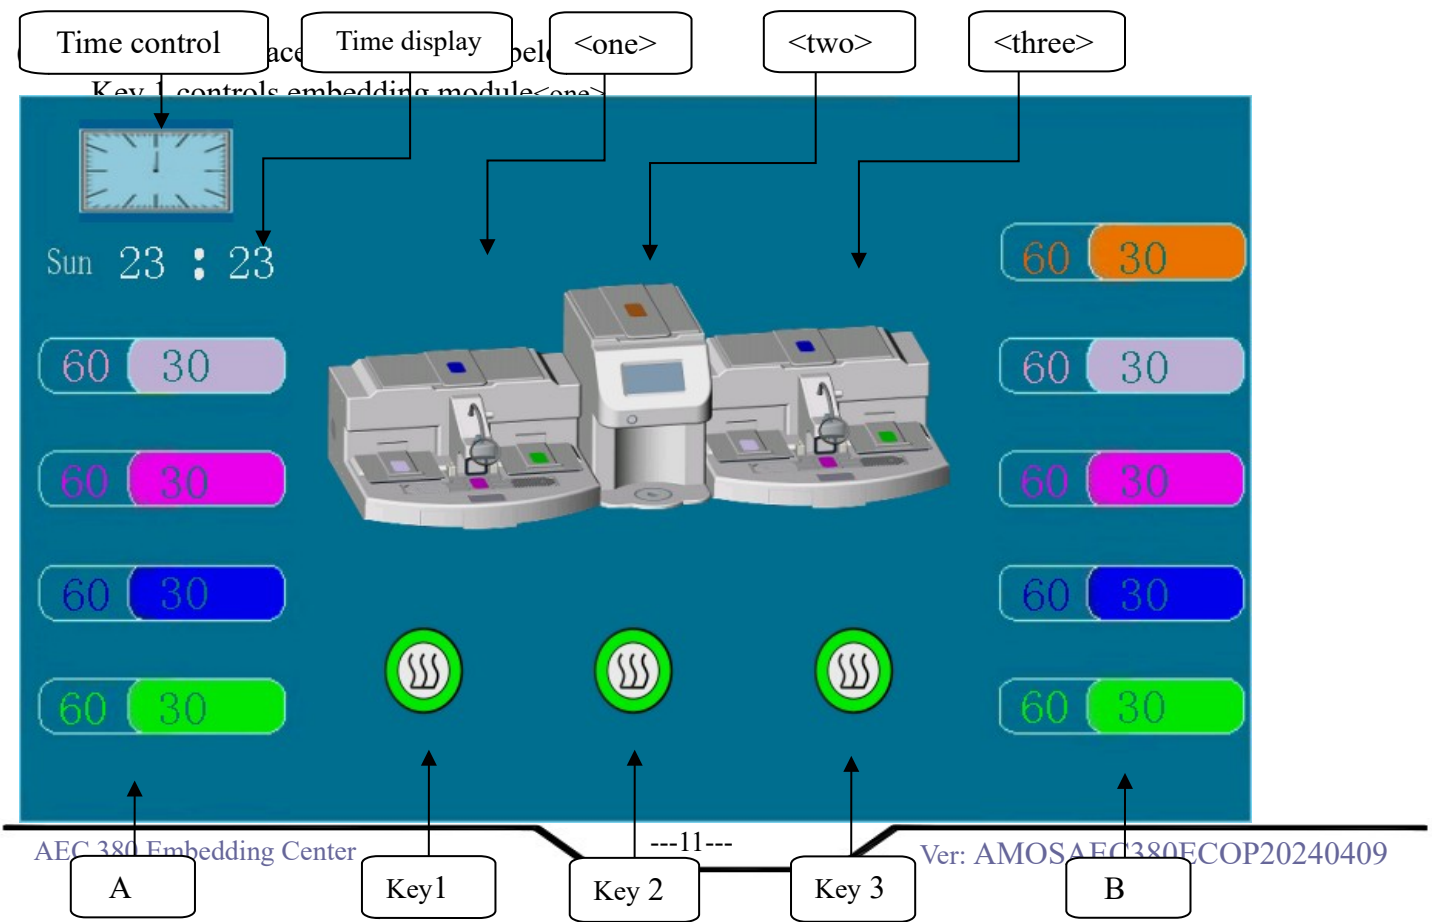
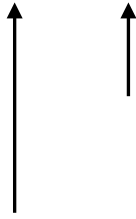

Fig. 12
Fig. 16
- (3) Time display : In Figure 12, the real-time is displayed under the clock (top left corner). The weekday is on the left, followed by two numbers indicating the hour and minute in the 24-hour time system, respectively. Click on the time display to enter the time setting interface as shown in Figure 14. The up arrow indicates "+", and the down arrow indicates "-". Set the desired value by clicking the up or down arrow to increase or decrease the current value to the target. After completion, click the black arrow below to return to the main control interface where you can see the updated real-time.
In Figure 12, the temperature control interface is shown. The target temperature is displayed on the left side of each bar, and the actual temperature is displayed on the right side. The orange bar indicates the temperature of Embedding Reservoir Two. Each colour represents a different part of the equipment as shown in Figure 15.
(5) Temperature Control of Internal Pipeline and Electromagnetic Valve: Click on areas <one>, <two>, and <three> in Figure 12 to access the temperature control interface of the pipeline and electromagnetic valve. This interface allows you to set and display the temperature control parameters of the paraffin reservoir and the embedding center, as illustrated in Fig 16.